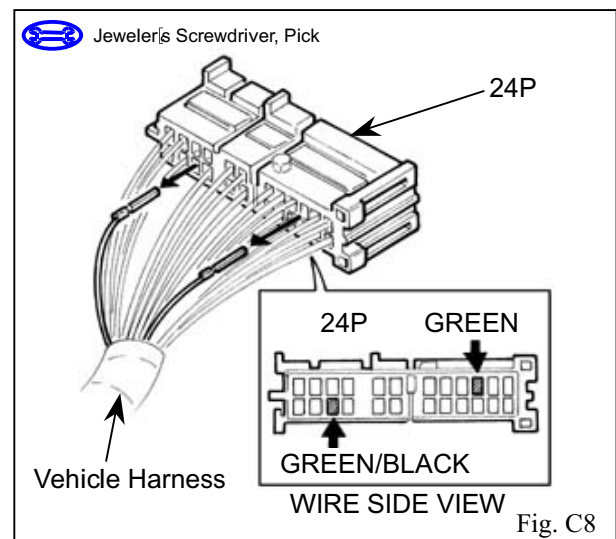

Fig. C8
15. Located the GREEN/BLACK wire in the bottom row, third spaces from the left. Using a pick, release and pull out the terminal for the GREEN/BLACK wire. (Fig. C8)
16. Located the GREEN wire in the top row, ten spaces from the left. Using a pick, release and pull out the terminal for the GREEN wire. (Fig. C8)